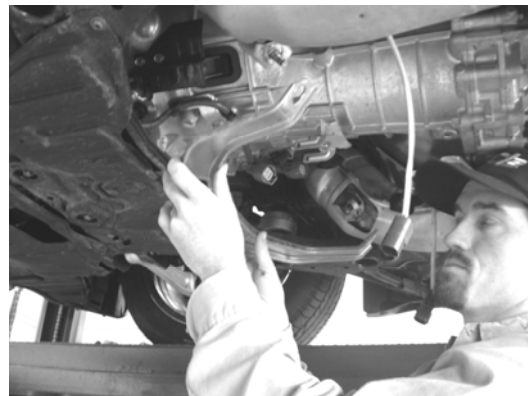

Figure 2
4. Unbolt and remove support bracket from vehicle as shown in figure 2.
9. Install support bracket shown in figure 2 using the original hardware